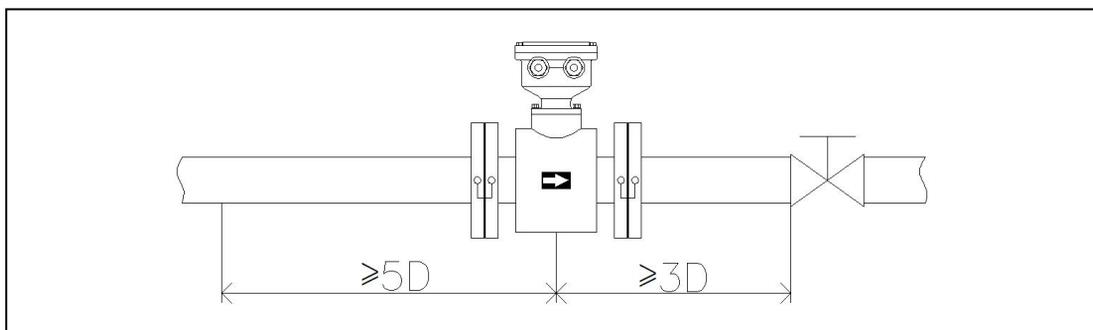
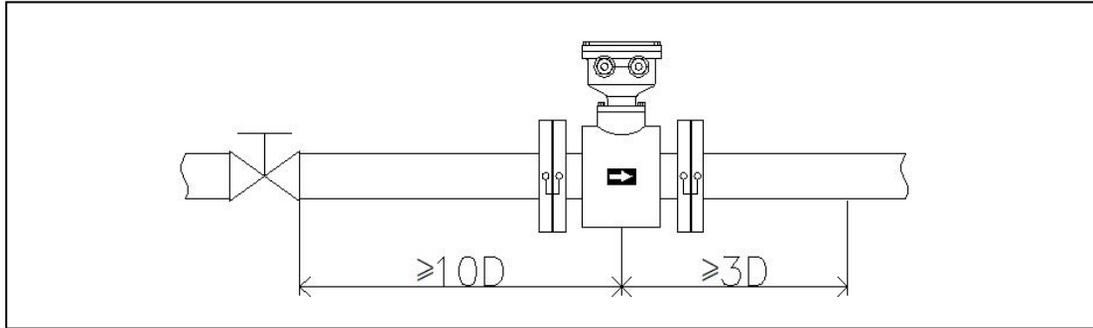

Figure 4.1.1 Requirements for upstream straight pipe segment
Figure 4.1.2 There is a gate valve or regulating valve on the upstream side that is not fully open.
- 9) If the requirement on the upstream side of the flowmeter is not less than 5D (pipe inner diameter) (figure 4.1.1), for example, if the upstream side is not fully open gate valve or regulating valve, the length of the upstream straight section of the flowmeter should not be less than 10D (figure 4.1.2); at the same time, the requirement for the straight section on the downstream side of the flowmeter is not high, as long as the data is greater than 3D.